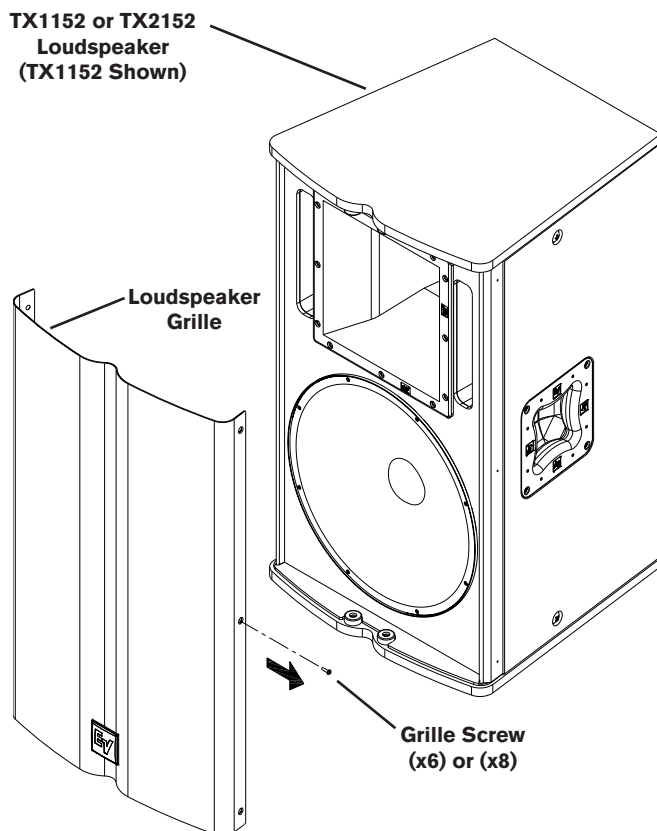

Figure 8:
1. Remove the (6 or 8) screws that attach the grille to the enclosure (Figure 8).
5. Reattach the grille using the (6 or 8) screws (reverse of Figure 8).